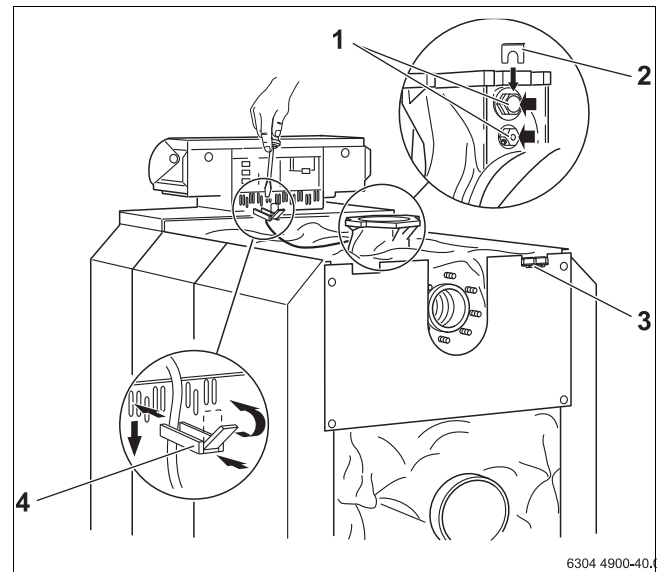

Fig 53 Fastening the electrical leads
- Feed each sensor into the corresponding sensor well and secure it with its sensor holder (detailed view in → Fig. 53 has been turned through 180°).